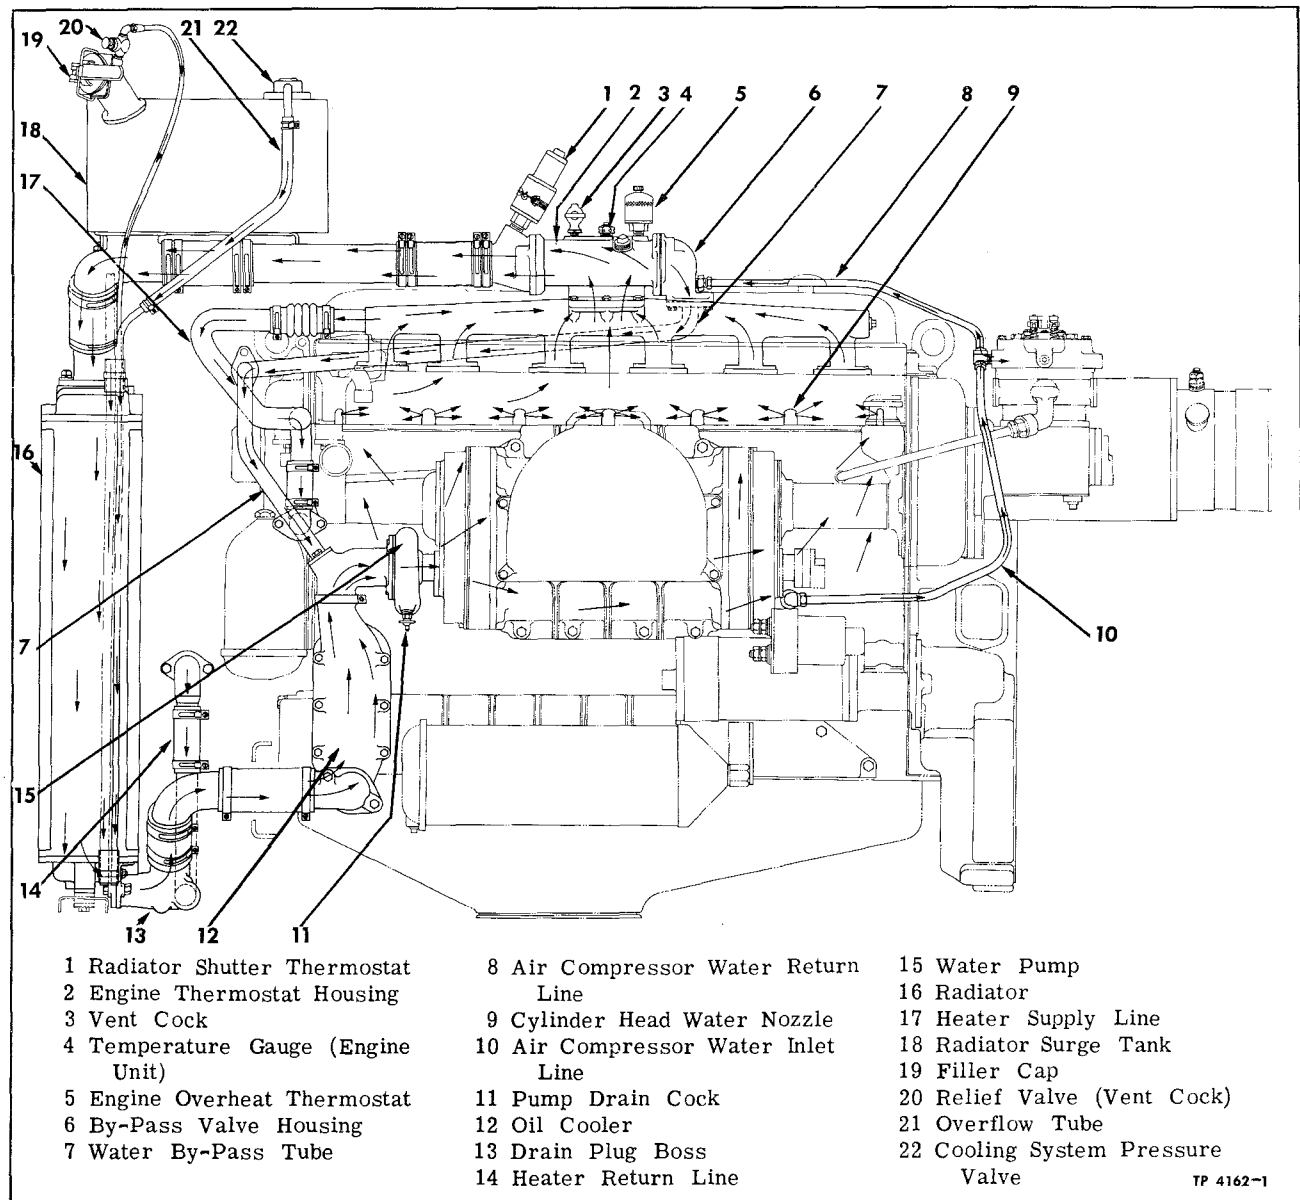
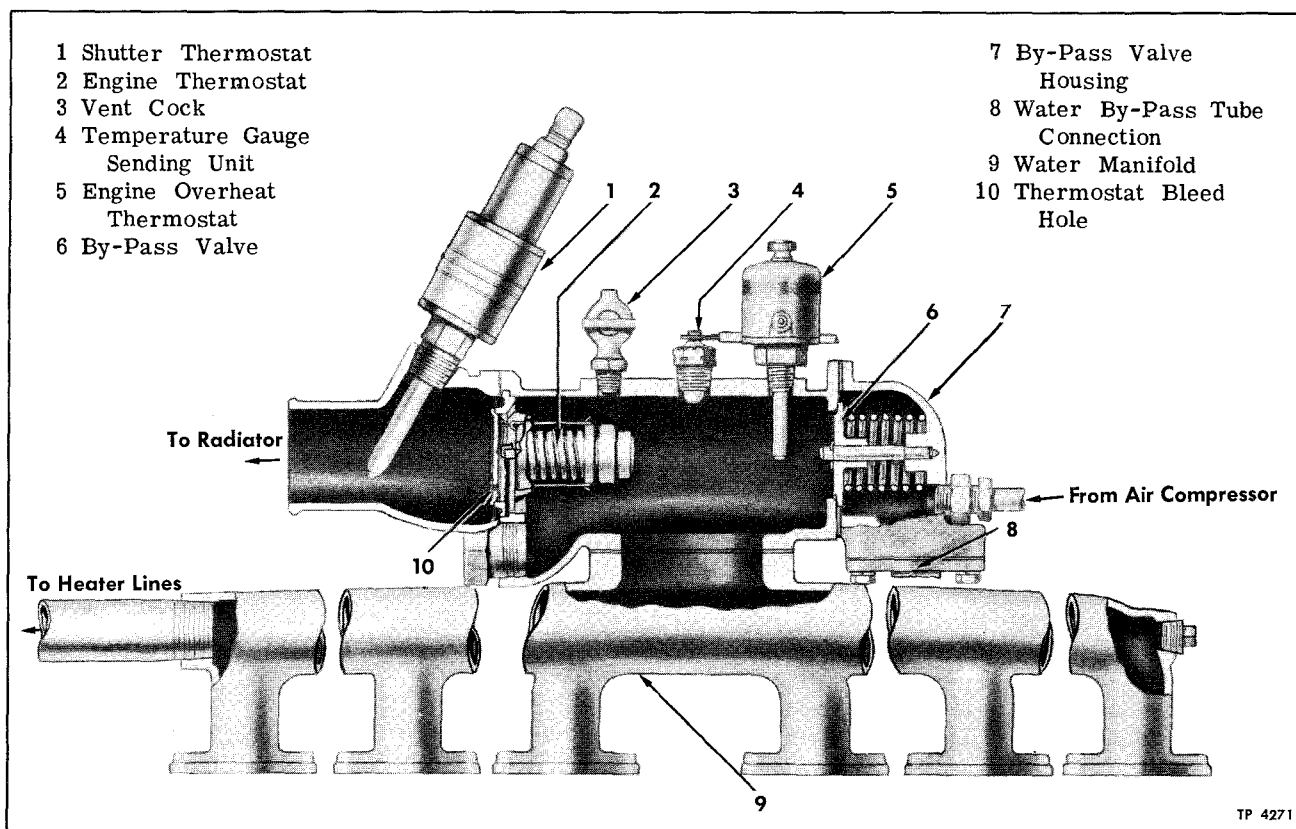

Figure 1—General Arrangement of Cooling System Units
Figure 2—Sectional View of Engine Water Outlet Connection
Surge tank, mounted as shown in figure 1, permits expansion of coolant without loss, under normal operating conditions.
Refer to figure 1. Thermostat, located in engine water outlet manifold, is closed and restricts flow of cooling liquid into radiator until minimum temperature (predetermined by calibration of thermostat) is reached. During this period circulation of cooling liquid is through engine heating system by way of heater supply line (17) and back to oil cooler (12) through return line (14).
When pressure from engine water pump is sufficient to unseat by-pass valve (6, fig. 2), water is forced through by-pass tube (7) to inlet side of water pump.
As cooling liquid nears normal operating temperature, thermostat opens gradually, permitting circulation through radiator as required to maintain proper operating temperature. As thermostat opens, permitting flow through radiator, pressure against by-pass valve (6, fig. 2) is relieved so that no water circulates through by-pass tube, except from air compressor return line (8, fig. 1).
ENGINE THERMOSTAT (Fig. 2)
Water temperature indicator system consists of two electrically connected units; a sending unit mounted in engine water outlet (fig. 2) and a registering gauge mounted on instrument panel.
Engine overheat thermostat (5, fig. 2), mounted
Coaches are equipped with a push-button type pressure relief valve and tube (20, fig. 1); valve is installed in radiator surge tank filler neck, accessible after opening filler cap door.
3. Open vent cock (3, fig. 2) on top of engine thermostat housing.